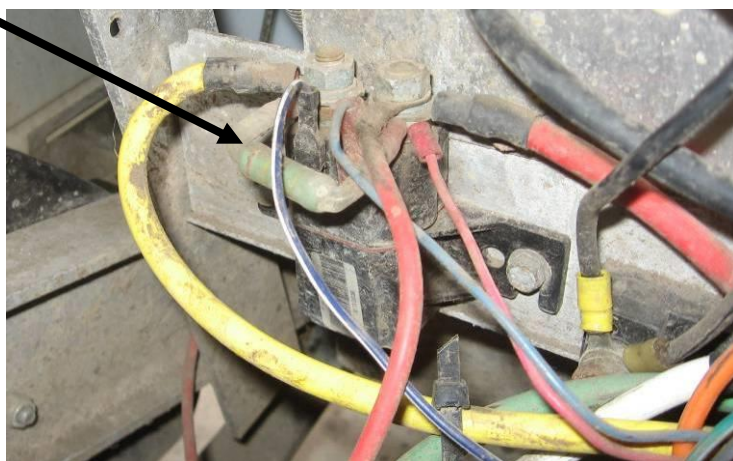

Figure 25
14. Remove the pre-charge resistor from the contactor. Connect the yellow wire with a ring terminal coming from the Walkaway relay, to the contactor on the controller side where the yellow wire is already connected. Connect the red wire with a ring terminal coming from the Walkaway relay, to the contactor on the battery side where the red wire is already connected. (Figure 25).